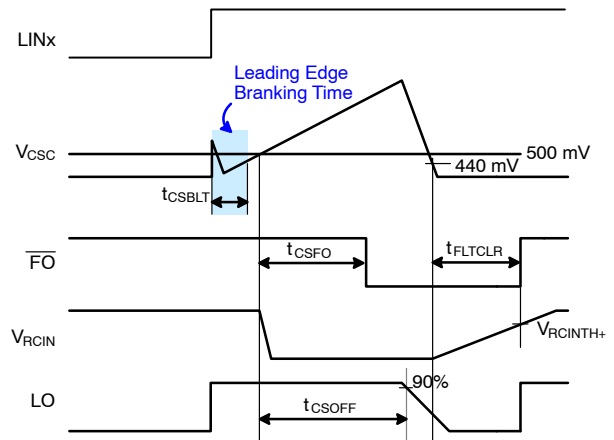

Figure 43. RCIN and Fault-Clear Waveform Definition
Figure 43 shows the waveform definitions of RCIN, $\overline{FO}$, and the low-side driver; which uses a soft turn-off method when an under-voltage condition of the low-side gate driver supply voltage (V_{DD}) or the current-sense pin (CS) recognizes a fault. If a fault condition occurs, the $\overline{FO}$ Pin is internally pulled to COM and all outputs (HO1, 2, 3 and LO1, 2, 3) of the gate driver are turned off. Low-side outputs decline linearly by the internal sink current source ($I_{SOFT} = 40 \text{ mA}$) for soft turn-off, as shown in Figure 43.